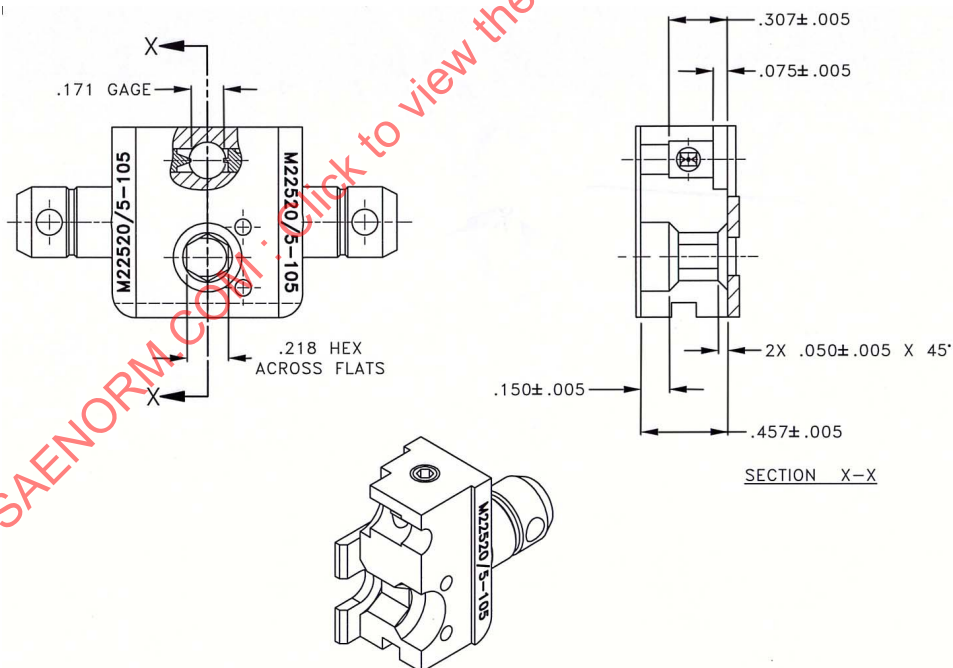

FIGURE 9 - GRAPHIC OF M22520/5-105 DIE
- SEE FIGURE 9 FOR GRAPHIC OF M22520/5-105 (REFERENCE Y631 OR EQUIVALENT) DIE.